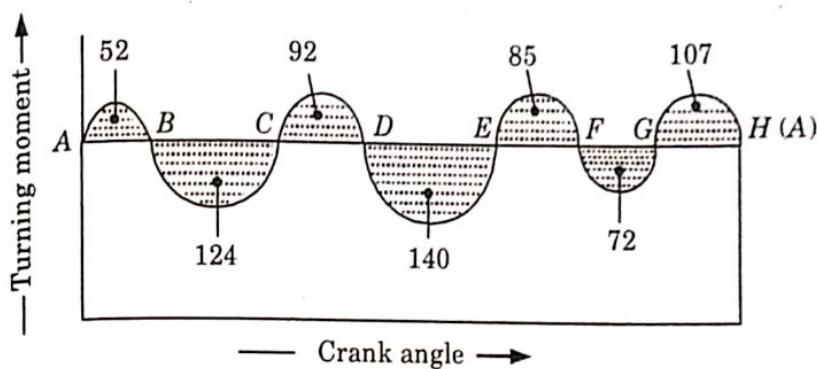

Fig. 3.26.1.
1. Draw the turning moment diagram as shown in Fig. 3.26.1 on the basis of given data.
3. Let the total energy at $A = E$, then referring to Fig. 3.26.1,